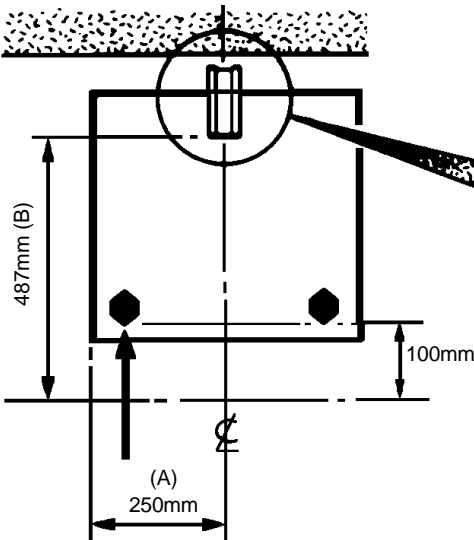
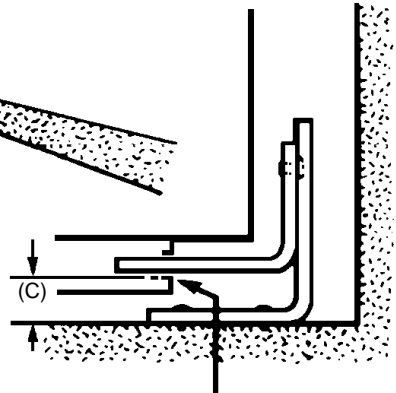

Fig.2
Fig.3
2. Mark off 250mm from the left hand side of the appliance as shown in dimension 'A', Fig 2. This is the centre line of the fixing bracket.
3. Draw a line 100mm from the front edge of the levelling feet (see Fig 2) and remove appliance from its position. Mark off dimension 'B' (see Fig 2) back from this line on the centre line of the bracket to locate the front edge of the lower bracket. Fix lower bracket (with two fixing holes) to the floor then measure the height from floor level to engagement edge on back of appliance, dimension 'C' of Fig. 3.
4. Assemble upper bracket to lower bracket so that underside of bracket is dimension 'C' +3mm above floor level. (see Fig. 3).
Reposition appliance and check that top bracket engages into appliance back as shown in Fig. 3.